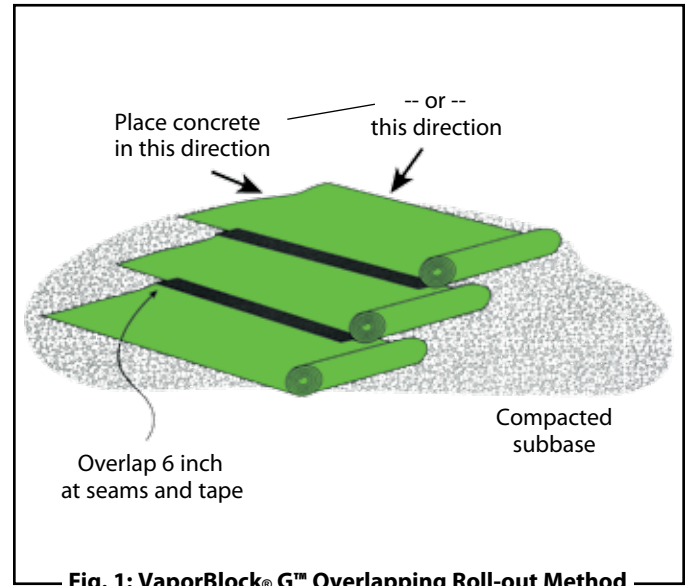

Fig. 1: VaporBlock® G™ Overlapping Roll-out Method
- 1.2. Unroll **VaporBlock® G™** running the longest dimension parallel with the direction of the pour and pull open all folds to full width. (Fig. 1)